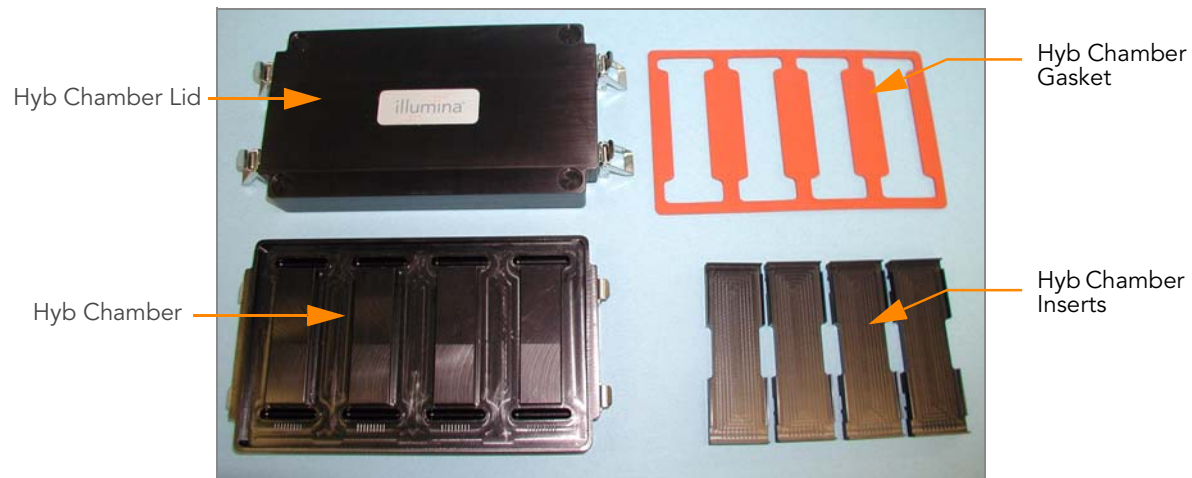

Figure 32 BeadChip Hyb Cartridge Components
1. For every 4 BeadChips, place the following items on the bench top (Figure 32):
- BeadChip Hyb Chambers (1)
- Hyb Chamber Gaskets (1)
- BeadChip Hyb Chamber Inserts (4)